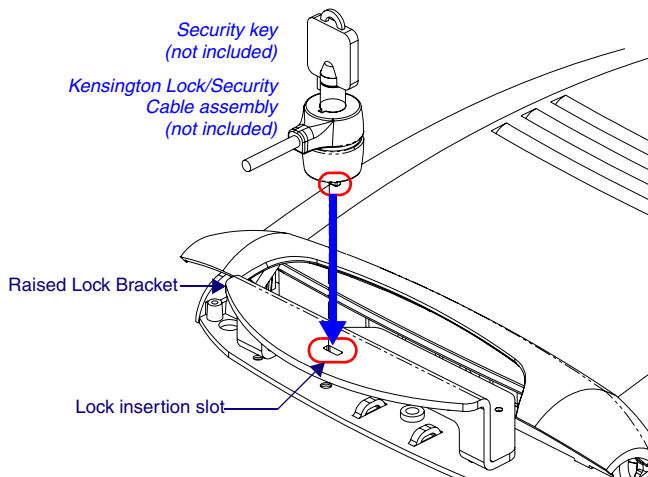

FIG. 6 Lock mechanism and insertion location
8. Open the Lock to rotate the lock mechanism so that it can be inserted into the slot on the top center of the Raised Lock Bracket (FIG. 6).